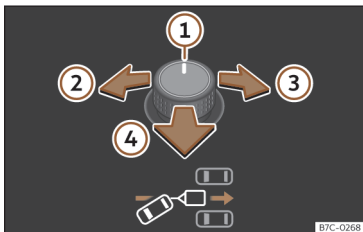
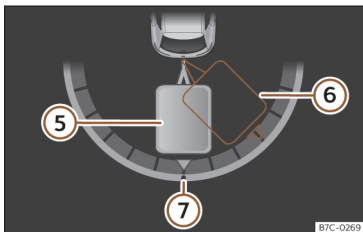

Fig. 165 Outside rearview mirror rotary control: adjust the trailer angle.
Fig. 166 Instrument cluster display: engage reverse.
Key to the >>> **Fig. 165**, >>> **Fig. 166**:
- Tilt the rotary control until the desired direction is reached >>> **Fig. 165**. A representation of the tow vehicle and trailer set is shown on the instrument cluster screen for guidance purposes >>> **Fig. 166**.